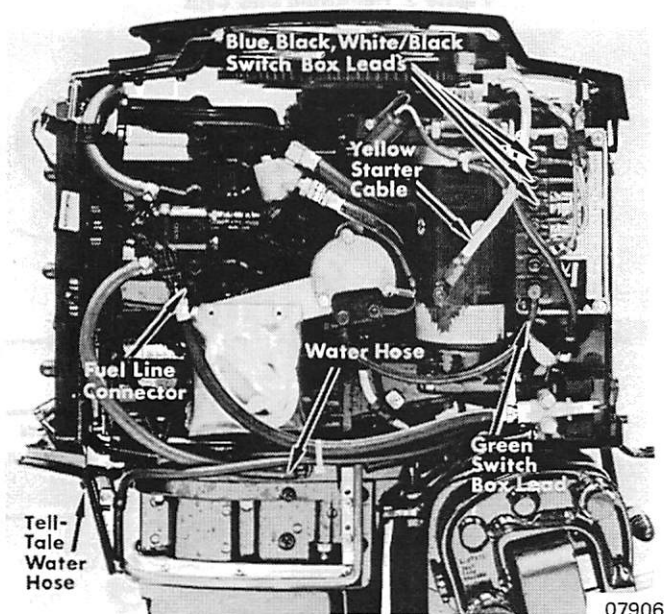

Figure 2. Powerhead, Starboard Side
6. Remove water hose from telltale. (Figure 2)
8. Remove yellow cable from starter motor. (Figure 2)
9. Remove green, blue, white/black and black leads from switch box. (Figure 2)
4. Remove fuel connector from fuel pump. (Figure 2)
5. Remove water hose from exhaust plate. (Figure 2)